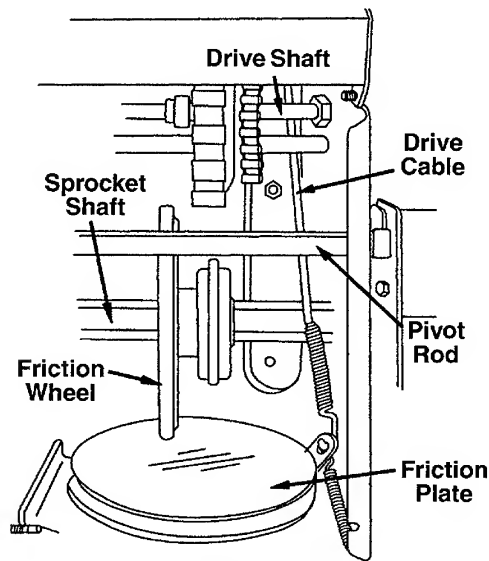

Figure 20
- With the traction drive control *released*, make sure that there is clearance between the friction wheel and the friction plate in all positions of the shift lever. See Figure 20.